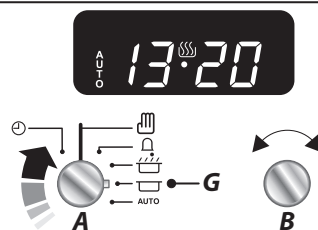

Fig. 4.5
1. Turn the **Timer (A)** knob to the **Stop Time (G)** setting. 'AUTO' will show in the display (**Fig. 4.5**).